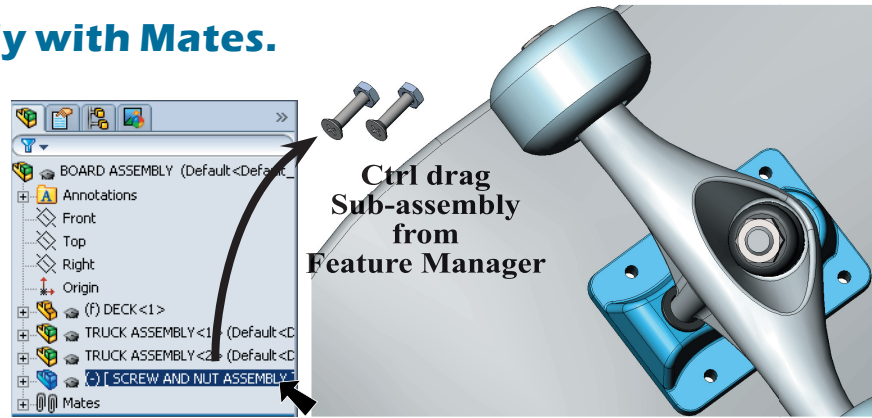

Fig. 15
Step 1. **Ctrl drag** new **SCREW AND NUT ASSEMBLY** out of the Feature Manager and place in drawing area next to original, **Fig. 15**. To **Ctrl drag**, hold down **Ctrl** key and drag **SCREW AND NUT ASSEMBLY** from Feature Manager.